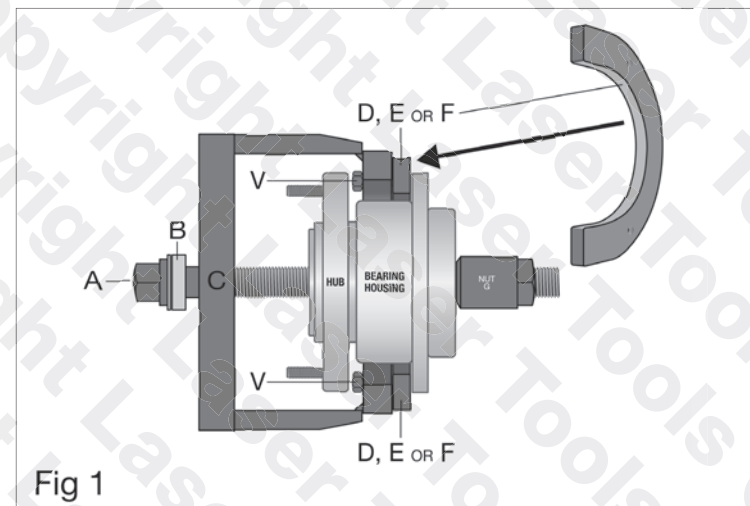

Fig 1
3. Refer to **Figure 1**: Select the horseshoe adaptor (**D**, **E** or **F**) that best fits the spindle bearing housing and assemble the hub puller as shown. The horseshoe adaptor is secured to the main bracket (**C**) with the two set screws (**V**)